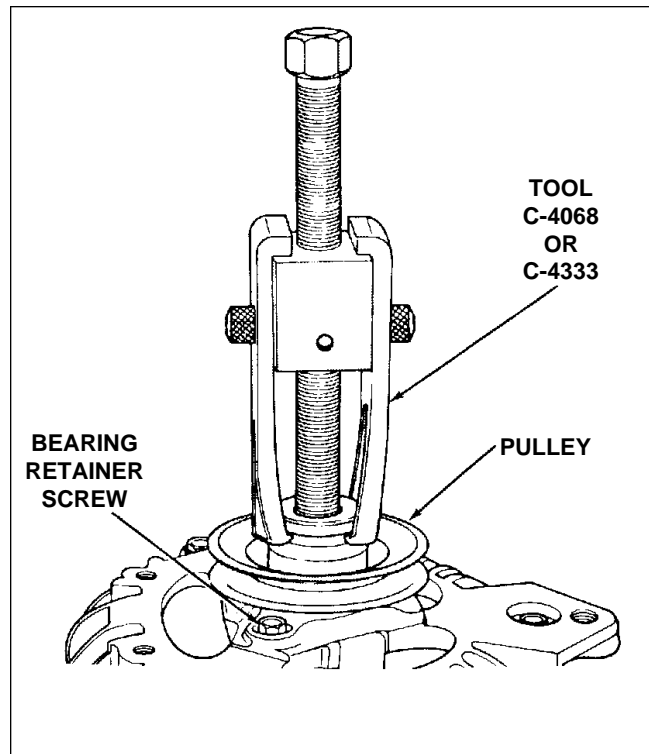

Figure 11-27. Removal of Pulley
- Remove pulley with tool C-4068. (Refer to Figure 11-27.)